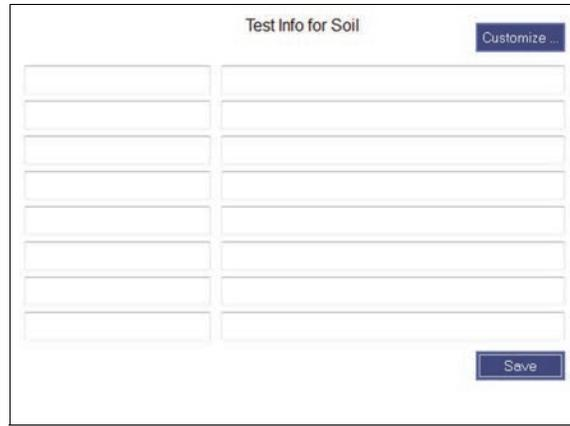

Figure 1-7 The Test Info pane
1. Click the **Results Test Info** icon () to display the **Test Info** pane (see Figure 1-7 on page 12).